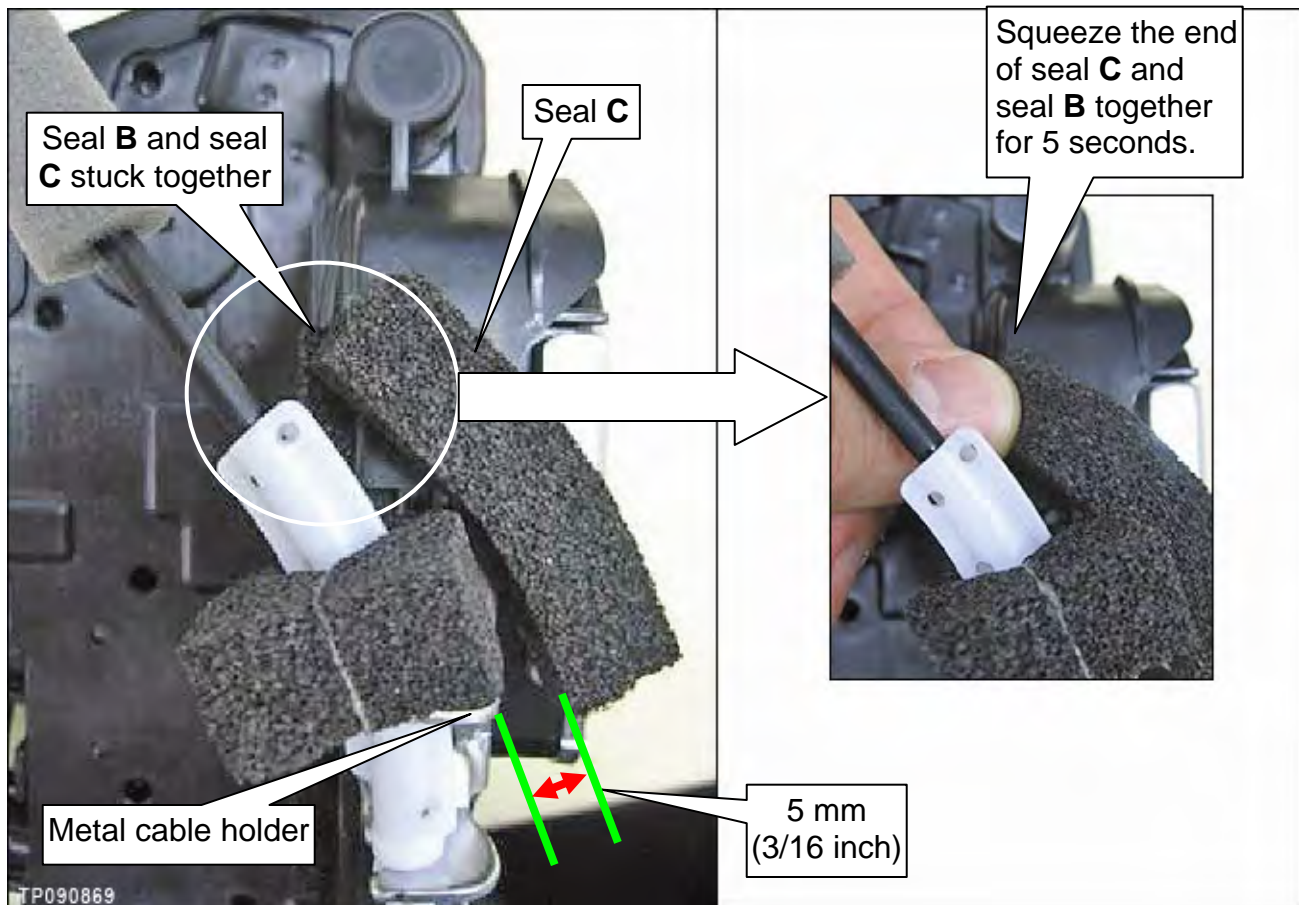

Figure 13
**NOTE:** Before beginning, it is recommended that you read all of seal **C**'s installation steps (a through d) and examine Figure 13.